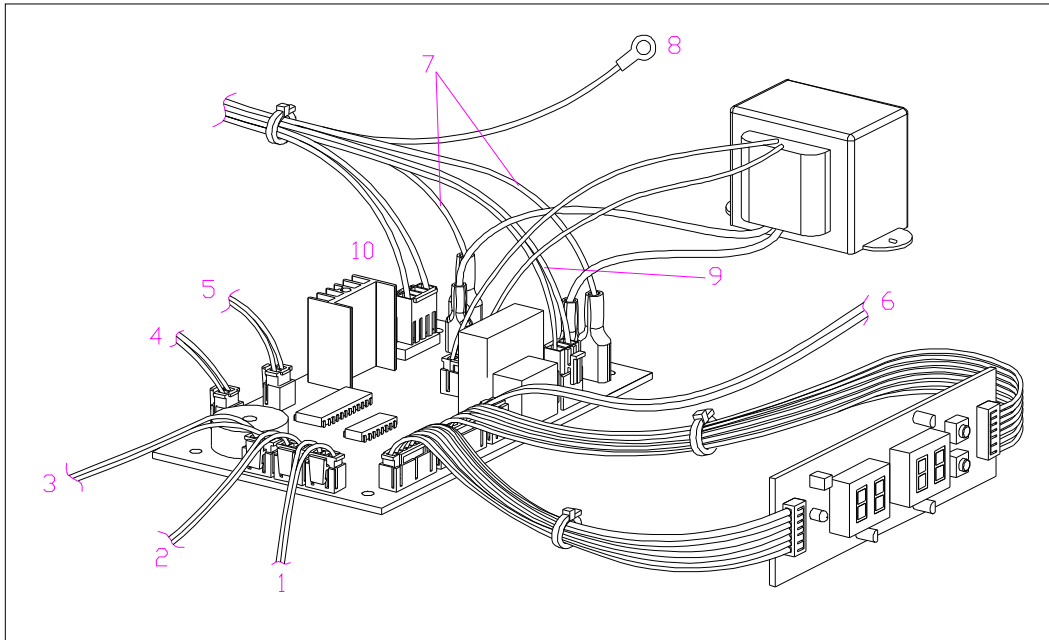
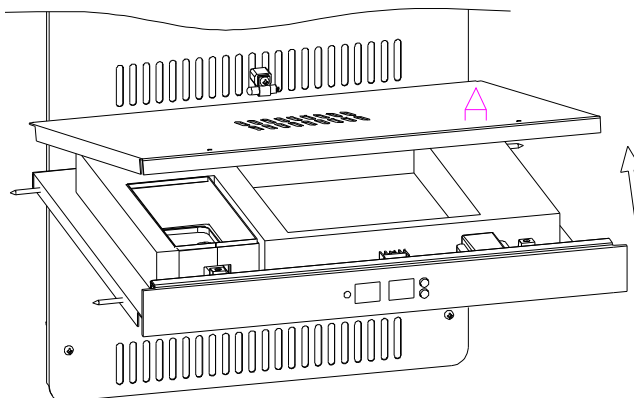

Fig.7
Fig.11
There are two version of PCB board, as we seldom use the old version, and we do not give any statement, and please see the new version as below (Fig.7)
b. Remove the the upper cover of middle air duct board(A) ,then unplug all connectors from the control panel:(Fig.11). The connections of the control boards are as per(Fig.7).